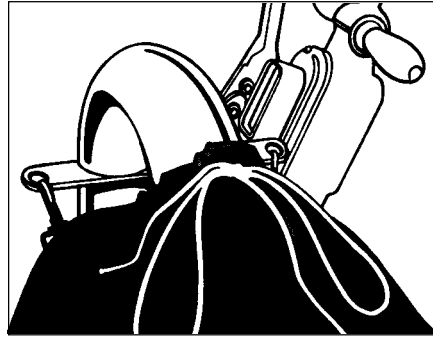

Figure 5
3. Clip the dust bag to the elbow. See figure 5. Cross the strings on the dust bag and draw tight over the flare on the elbow. Wrap the string around the elbow and secure.